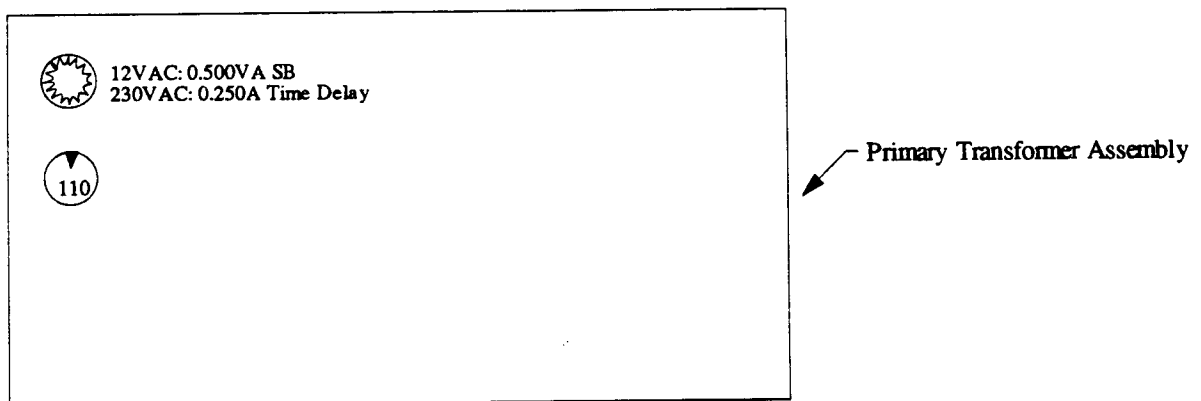

Figure 27 - Miniterm Primary Fuse
A 1/2-ampere (0.500A) slow-blow, UL approval fuse protects the Miniterm primary circuit. The fuse is located on the power transformer assembly on the bottom of the Miniterm. (see Figure 27).
- 3) Using a non-conducting fuse puller, remove the old fuse (see Figure 27).
A 0.250-ampere time delay fuse meeting IEC standards protects the Miniterm primary circuit. The fuse is located on the power transformer assembly on the bottom of the Miniterm. (see Figure 27).
- 3) Using a non-conducting fuse puller, remove the old fuse. (see Figure 27).